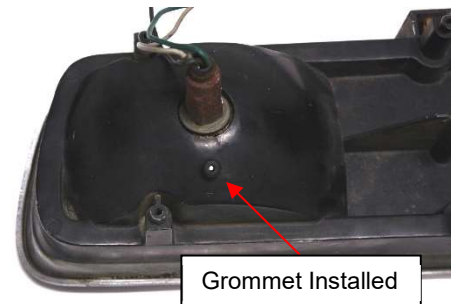

Figure 3
- 3.2. **OPTIONAL:** If sequential turn signal patterns are desired, drill a 3/16" diameter hole just below the bulb socket on the outboard taillight housing. (See Figure 3) Then install provided rubber grommet into the drilled hole. One method to simplify installation is to pinch grommet, insert protruding edge into the hole, then use a small flat blade screwdriver to push/work the remaining edge through the hole.